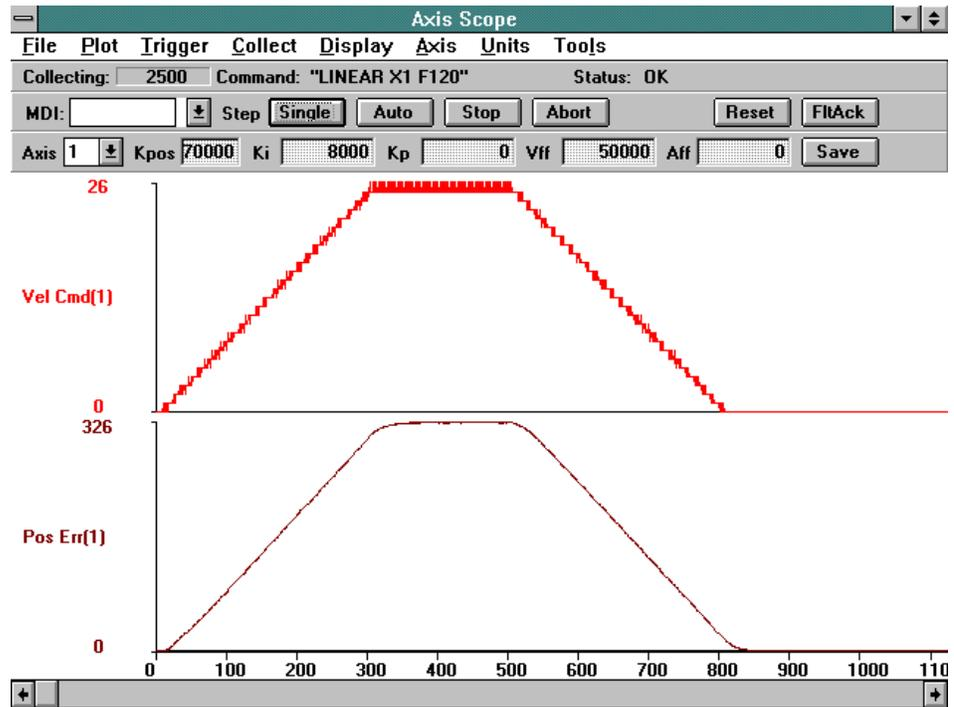
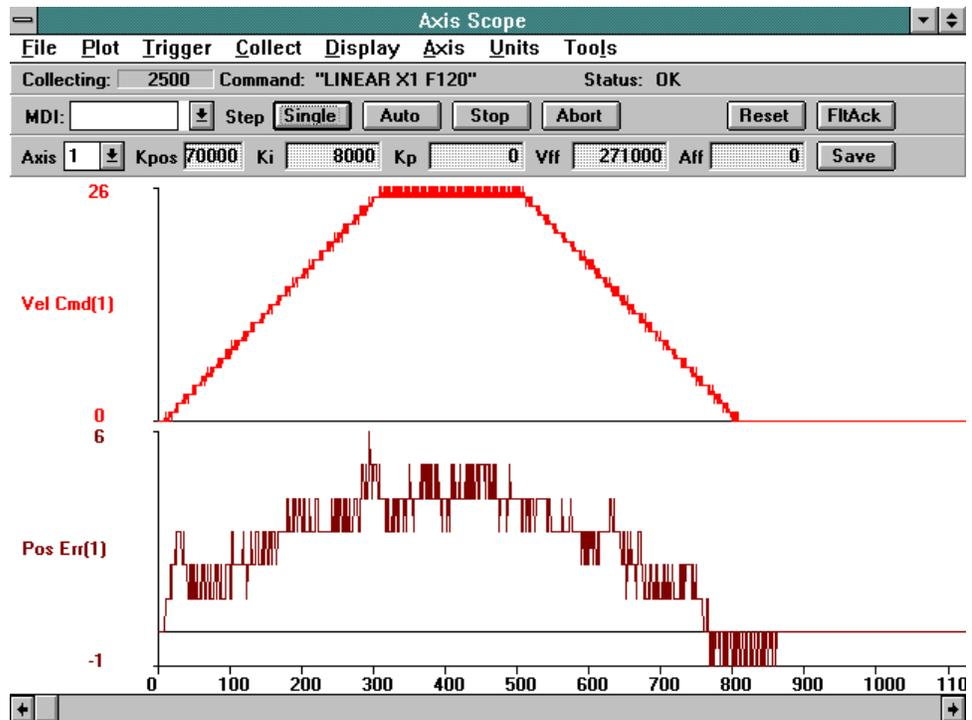

Figure 6-30. Position Error After Increasing Vff
Figure 6-31. Position Error Reduced to Within 10 Counts of Error Using Vff
11. Adjust the Velocity feedforward value to reduce the position error (if desired). When doing this, attempt to get the position error within 10 to 20 machine steps of error. Ensure the position error does not cross the zero line of the graph. If it does, Vff is set too high. The objective is to obtain smoothness in the Position Error and to get within 10 to 20 counts of error. Figure 6-30 illustrates that Vff has reduced the amount of position error. However, Vff still needs to be increased so the position error can be reduced some more. This is shown in Figure 6-31 where the position error has been reduced to within 10 counts of error. It is OK to allow some following error in the system.